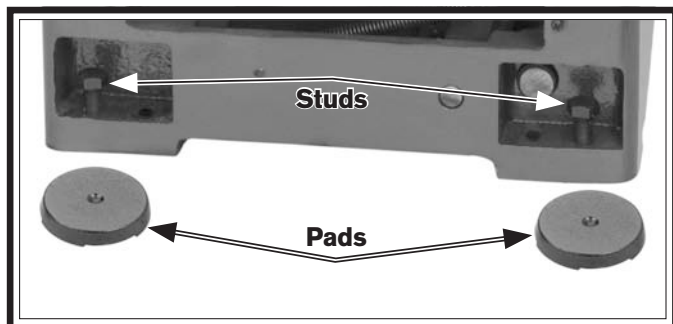

Figure 11. Leveling pads and screws.
- If using the included leveling pads (**Figure 11**), place them under the six leveling stud locations, then adjust the studs to level the lathe.